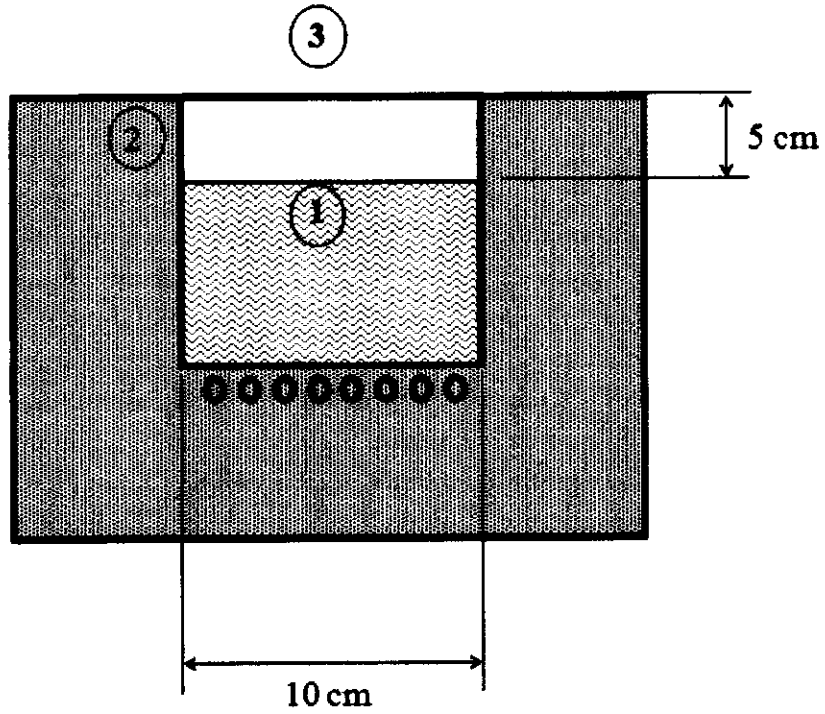

Figure Q6
- Q6** A graphite block has a cylindrical cavity 10 cm in diameter and serves as a crucible for laboratory experiments as in **Figure Q6**. It is heated from the bottom and the side walls are well insulated. The cavity is filled with melt at 600K to 5 cm below the opening. What will be the rate of heat loss from the melt by radiation if the surrounds are at 300K and all surface are approximated as being black.